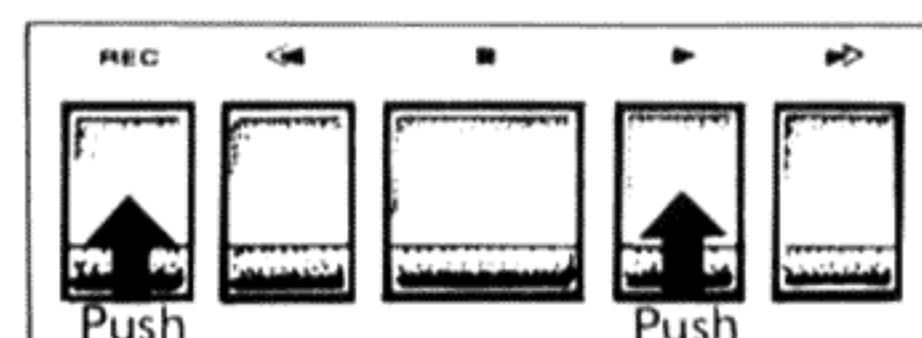

Fig. 39
2. At the point from which you want to re-record, push down the REC and ►PLAY buttons simultaneously (Fig. 39). The unit will switch to recording mode without the tape being stopped. You must push down both the REC and ►PLAY buttons simultaneously. Pushing the REC button alone will stop the tape.